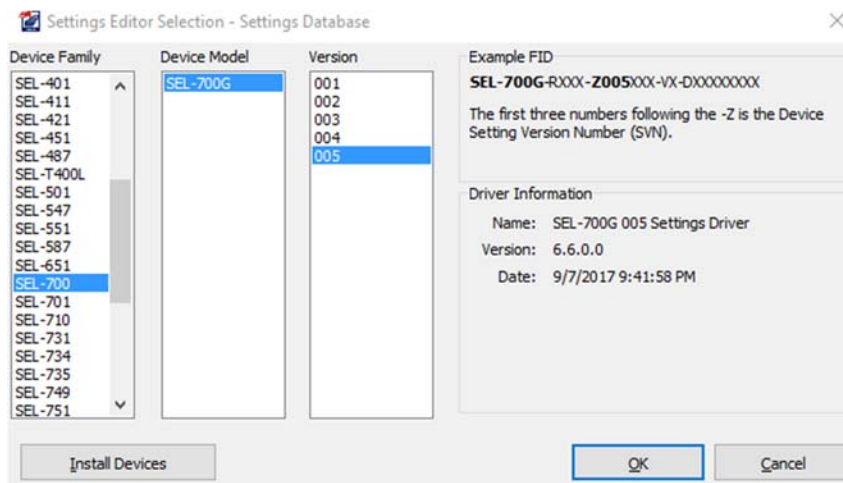

Figure 28: Select 700G Part Number
- b. Choose the Device Family, Model, and Version for this specific relay unit from the available menus, then click Ok (Figure 28). Look up the relay’s version number using the front-panel interface on the relay. Press the **ENT** button, and use the down-arrow button to navigate to the **STATUS** option.